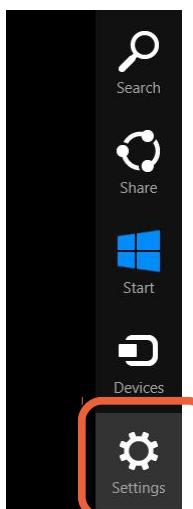

Figure 51: Click "Settings" on the Charm Bar
- First, bring up the Charm Bar (click on the lower-right corner of the screen or simply hit the “Windows flag key and the letter “l” simultaneously). The Charm bar is shown in Figure 51. In the Charm bar, click “**Settings**”.